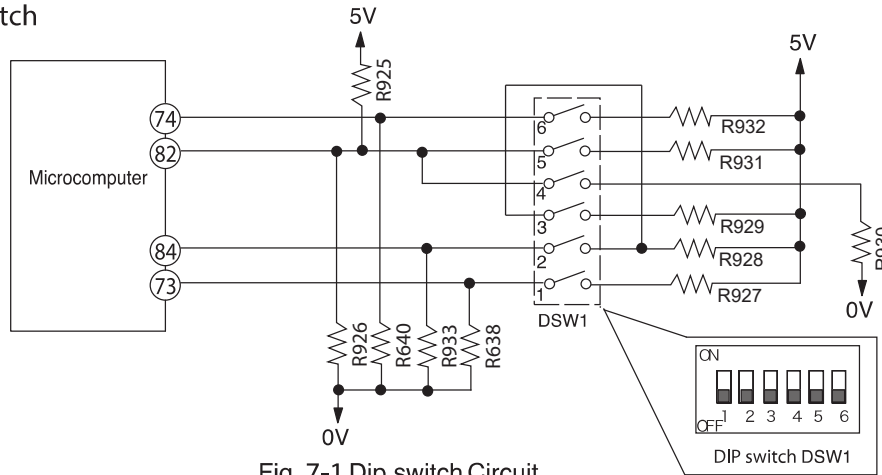

Fig. 7-1 Dip switch Circuit
- Fig. 7-1 shows the dip switch circuit; the table shown in Fig. 7-2 are function and setting position from ①-⑥ of the switch No.